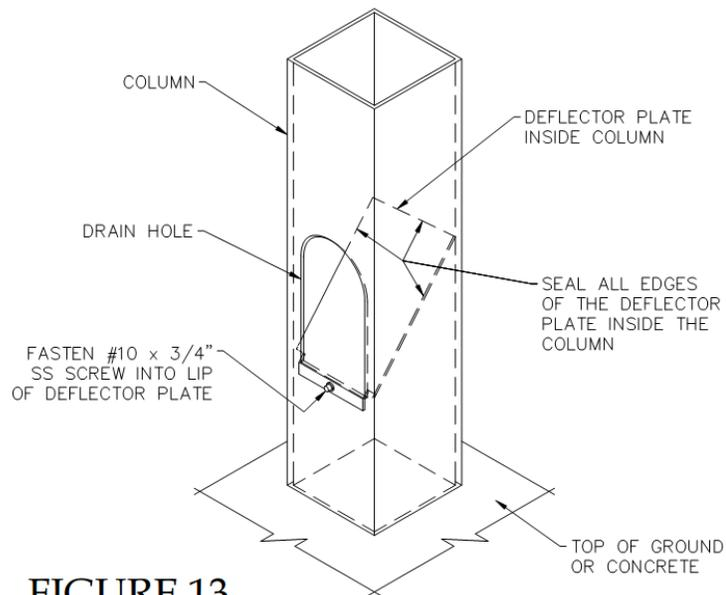

FIGURE 13
- D. Insert the deflector plate into the hole with the lip projecting out of the hole. With the deflector plate pressed against the bottom of the hole, bend the plate over to where it touches the back inside wall of the column and the lip touches the outside face of the column. Fasten the lip of the deflector plate to the face of the column with (1) #10 x  $\frac{3}{4}$ " SS screw. Seal along all the edges of the deflector plate on the inside of the column (Figure 13).